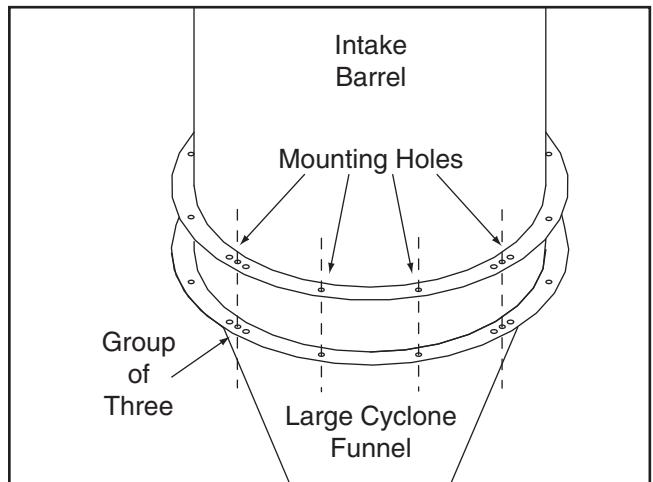

Figure 22. Intake barrel and large cyclone funnel mounting holes aligned.
- With assistance, place the intake barrel over the large cyclone funnel and align the mounting holes as illustrated in **Figure 22**.
13. Install the four cyclone mounting brackets with (8) $\frac{3}{8}$ "-16 x 1 $\frac{1}{4}$ " hex bolts, (16) $\frac{3}{8}$ " flat washers, and (8) $\frac{3}{8}$ "-16 lock nuts (see **Figures 22 & 24**).